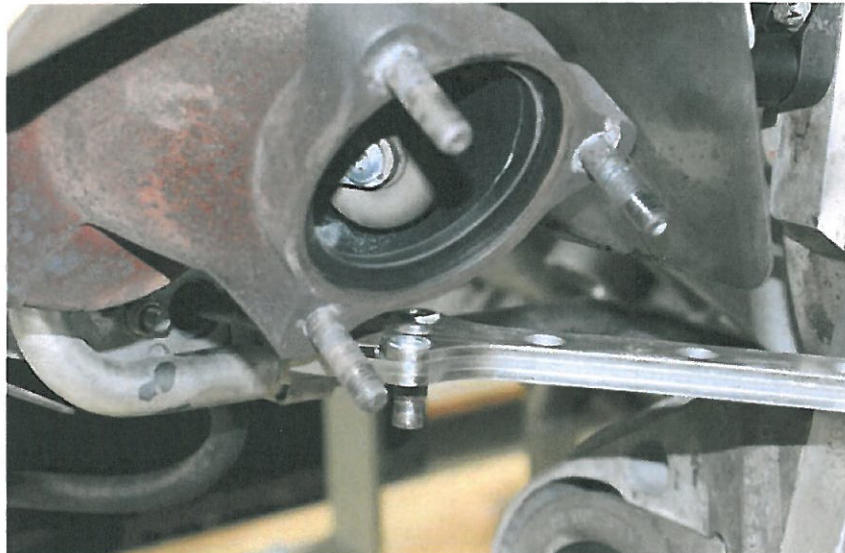

Fig. 2 Hold the waste gate lever steady
5. Install the counter support to the waste gate lever. See Figure 2.